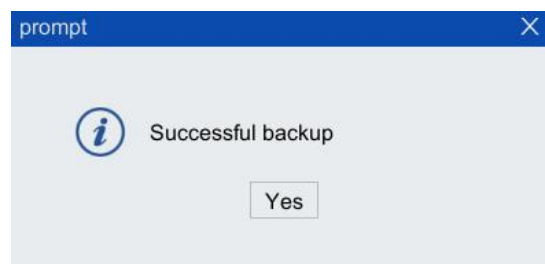

Figure 7-5 "Backup Succeeded" dialog box
- Step2. Then select the position to save. By default, it is saved in "Local TP" (that is, saved to "Backup" folder of the teach pendant). The user can also save it to "USB" (the root directory of USB on the teach pendant), click <Yes> button, "Successful Backup" dialog box in Figure 7-5 will pop up, as shown in . Then click <Yes> button to complete the backup.